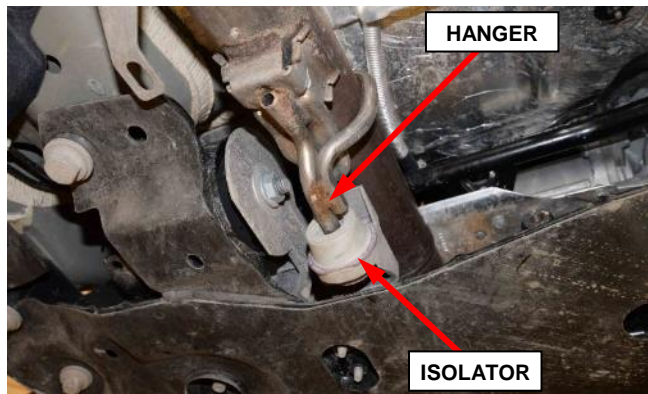

Figure 39 – Front Exhaust Isolator
f. Slide the crossunder pipe rearward separating the pipe hanger from the front isolator (Figure 39).